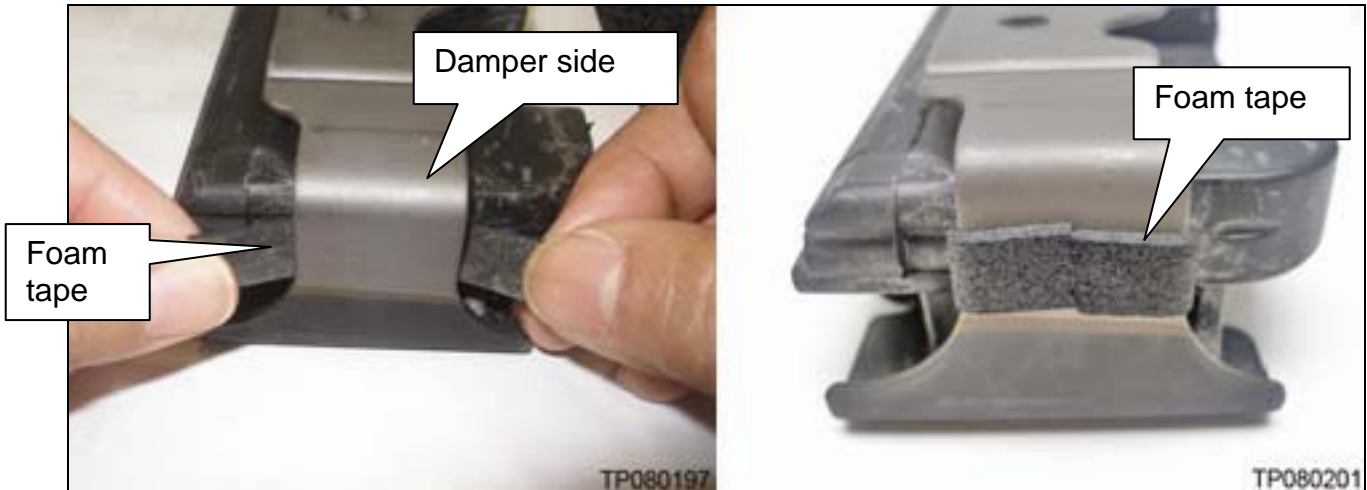

Figure 5
b. Wrap foam tape around the damper side as shown in Figure 5.